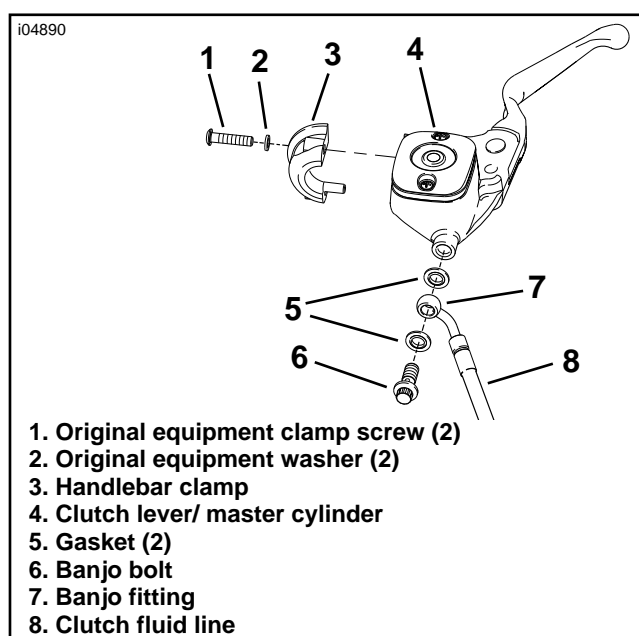

Figure 5. Clutch Master Cylinder/Reservoir
1. See Figure 5. Obtain the clutch lever/ master cylinder assembly (4) from the kit, and the two screws (1) and two flat washers (2) saved earlier.
- If installing Kit 46414-05 (Chrome), obtain the handlebar clamp (3) from the kit
- See Figure 5. Obtain the clutch-fluid line assembly (8), banjo bolt (6) and **new** gaskets (steel/rubber washers, item 5) from the kit. Position the washers on each side of the hydraulic clutch-line banjo fitting.